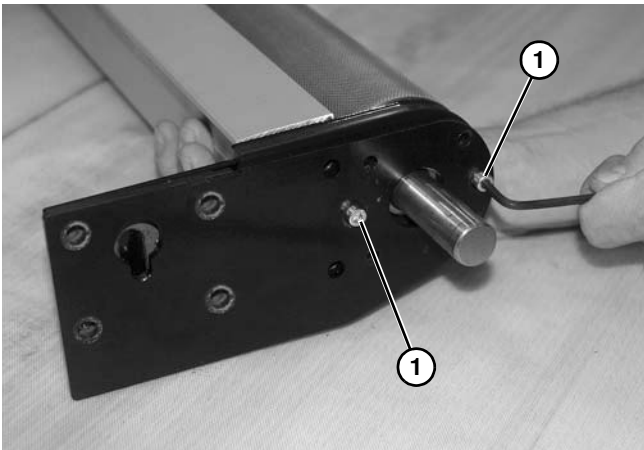

Figure 121
9. Remove the two screws (Figure 121, item 1) on the drive shaft side.